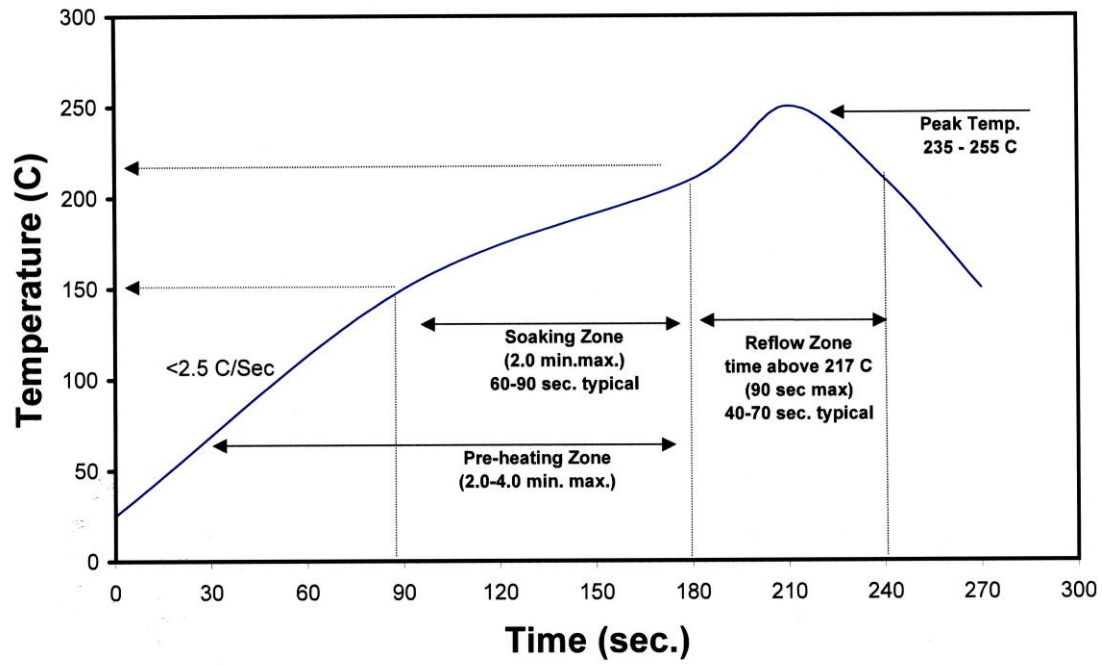

Figure 4: Reflow soldering profile for lead free soldering.
- Solder conditions per JEDEC 020D. See Reflow Soldering Profile Figure 4.